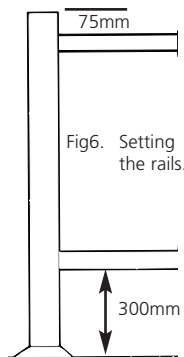

Fig7. Cut notch in the post for the rails.
- Mark out the depth of the rail and cut notches in the posts for the rails (see Fig 7) using a saw to cut to the depth line and chisel to cut out the waste.